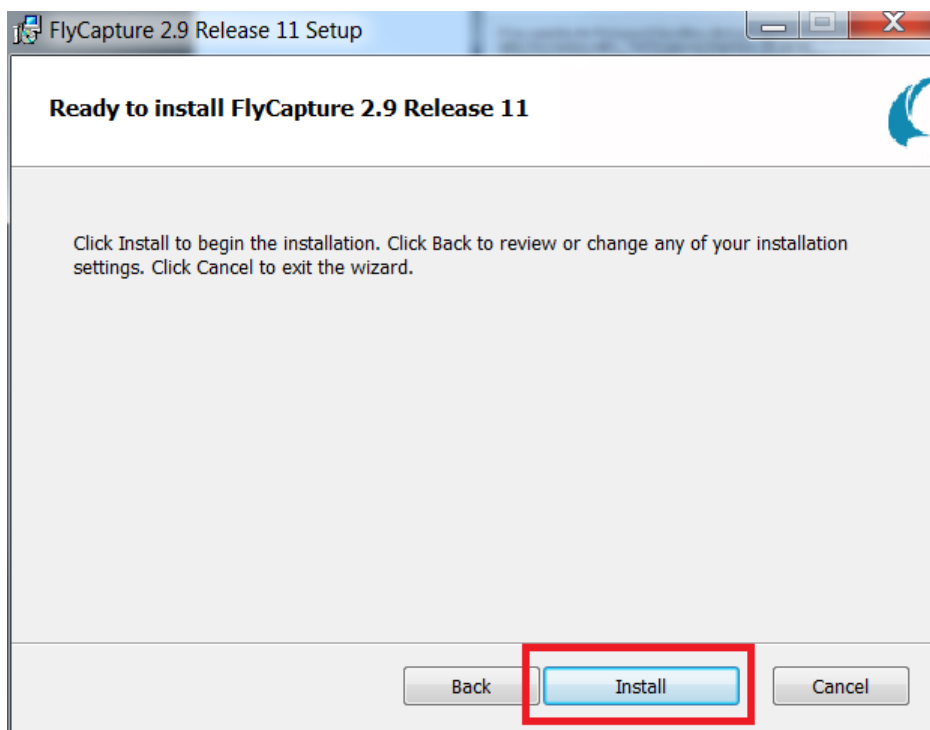

Figure 2-12. Install FlyCapture2 SDK
12. Click the "Install" button, shown in Figure 2-12, to continue the installation.